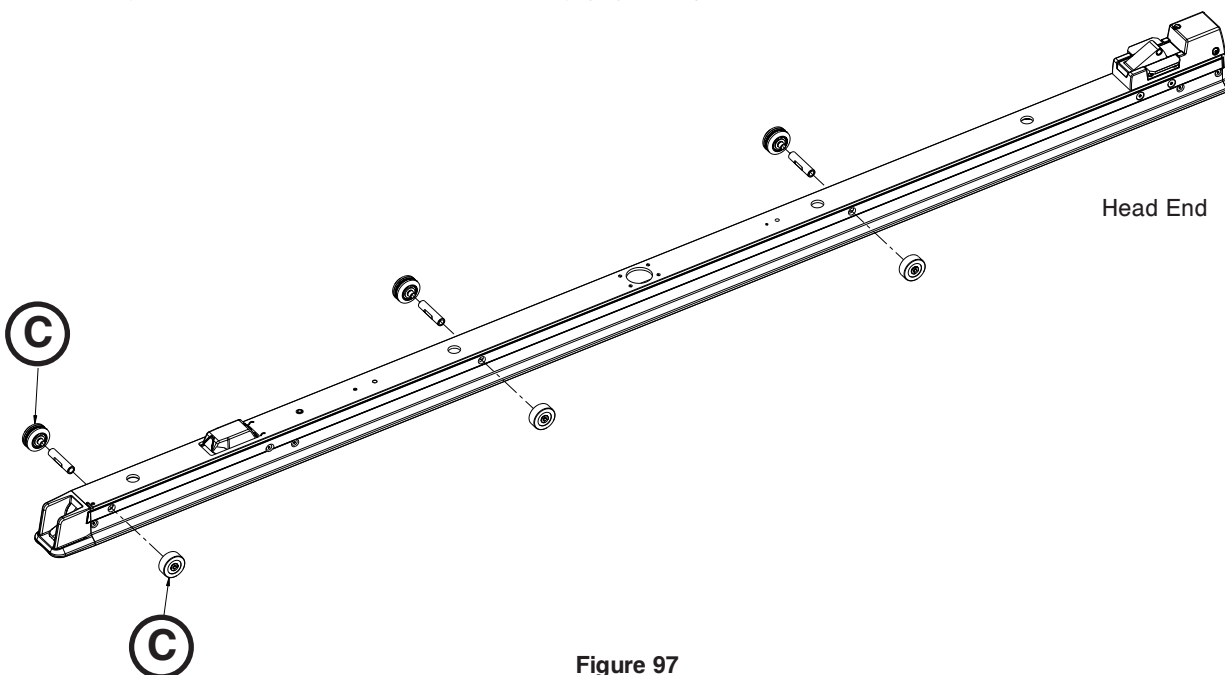

Figure 97
- Using a 1/4" hex wrench, remove the two screws (C) that secure the flat roller assembly and the V-guide roller assembly on the foot end of the anchor assembly (Figure 97). Save all parts for reinstallation.